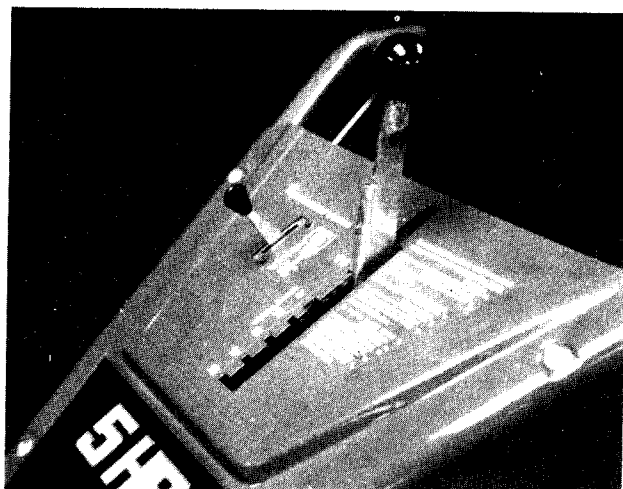

FIGURE 22.
E. Neutral (N)—Move lever to center detent. See figure 22.
1. Place the gear shift lever in neutral (N) position. See figure 22.